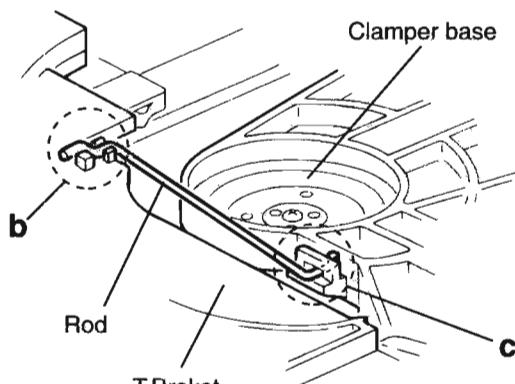

Fig.2
(See Fig.2~4)**
5. From the T.bracket section "b" and clamper base section "c", remove both of the edges fixing the rod(See Fig.2 and 3).